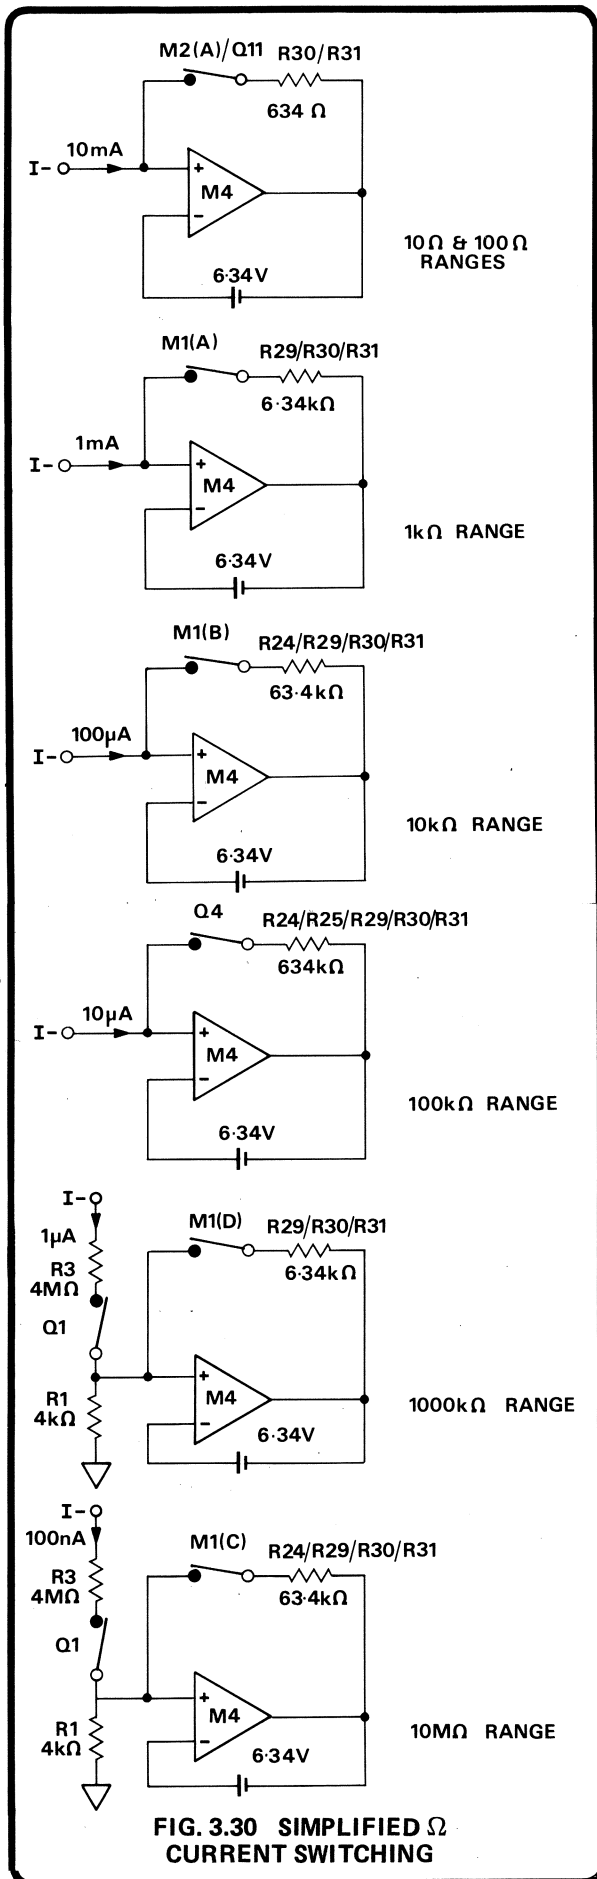

FIG. 3.30 SIMPLIFIED Ω CURRENT SWITCHING
charged up from the negative reference (originating from the analog section of the A - D converter). These gates then close and A and B open, sharing the charge with C8, the voltage across C8 equals the reference voltage (sheet 1). The voltage developed across C8 causes M4 to sink current through resistor chain R24, R25, R29, R30, R31 until the voltage developed across the chain balances that across C8. Thus the current required for a particular range is selected by the value of the resistor chain switched by M1, M2 and Q4. Simplified diagram Fig. 3.30 shows the resistor chain and switching for each range. On the high resistance ranges leakage paths are provided by Q3, M2(B) and M2(C).